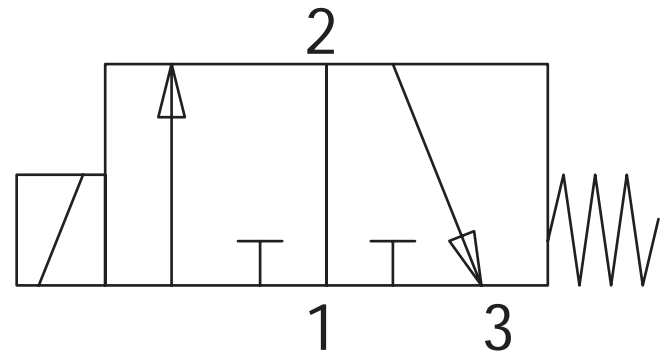

**Figure 14**
- Install the lift and locate guiding (**Figure 14, item 1**) on the opposite side of the conveyor as the continuous guiding (**Figure 14, item 2**). Guiding to be installed to help contain the pallet as it enters and exits the lift and locate station (**Figure 14, item 3**). For component details see page 36.